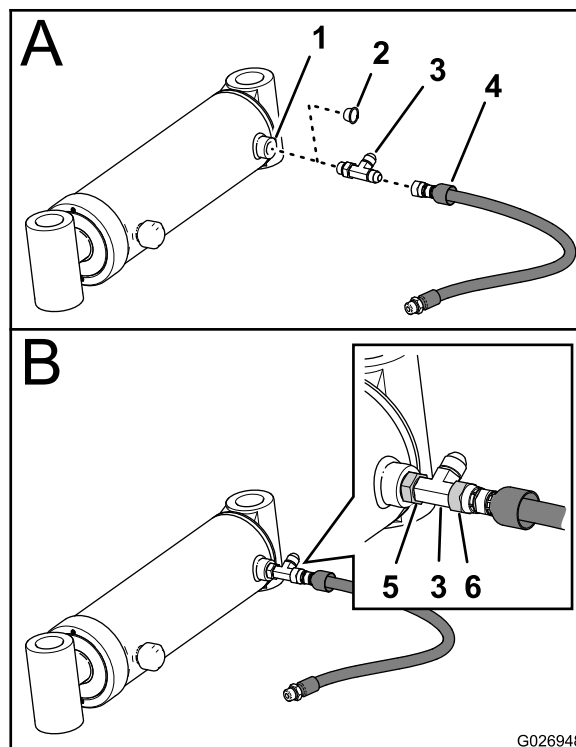

Figure 6
1. Remove the shipping plug from the extend port of a pivot cylinder (Figure 6).
2. Install a T-fitting (3/8 inch) into the extend port (Figure 6) and tighten the swivel nut of the fitting hand tight.
3. Install a cross-connect hose (1/4 x 20 inch) onto the T-fittings as shown in Figure 6.